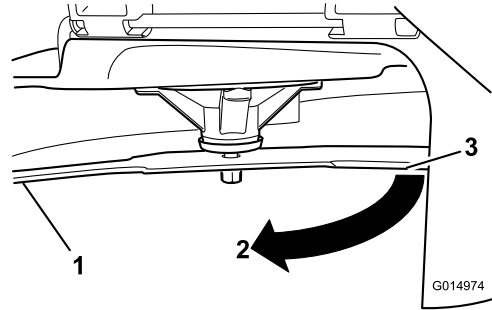

Figure 65
4. Rotate the same blade 180 degrees so that the opposing cutting edge is now in the same position (Figure 65).